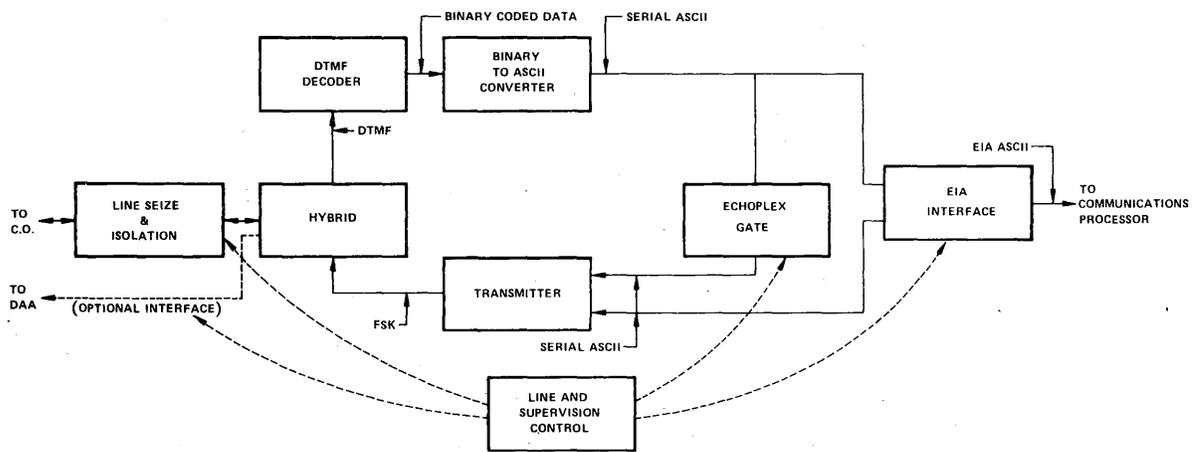

Figure 1-4. Functional Block Diagram of Modem Channel
1.09 Each channel board of the DS151A modem provides all the signaling functions for two-way half duplex communications between remote terminals over phone lines, and interfaced central processors. Figure 1-4 is a functional block diagram of a modem channel. The line and supervisory control circuits manage the mentioned line seize, hangup and handshaking routines. The line seize and isolation components couple the phone line with the line relay, connecting a 1:1 transformer to the rest of the circuitry through a balanced hybrid. The hybrid is required for